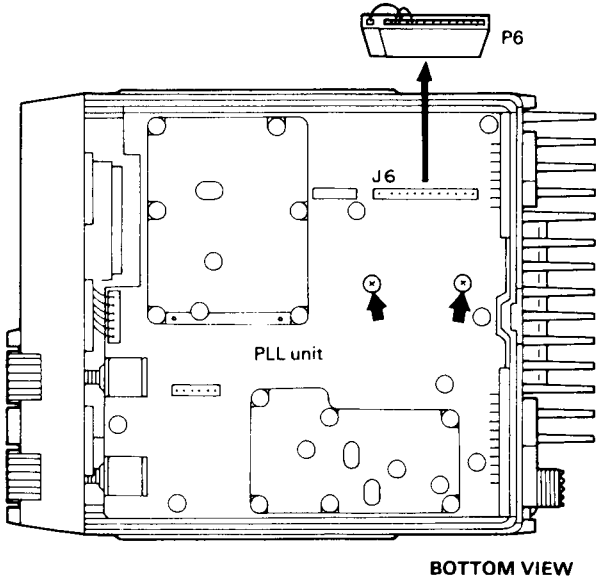

Fig. 3-2
- 5: Installing KQT-1 (Fig. 3-2, 3)